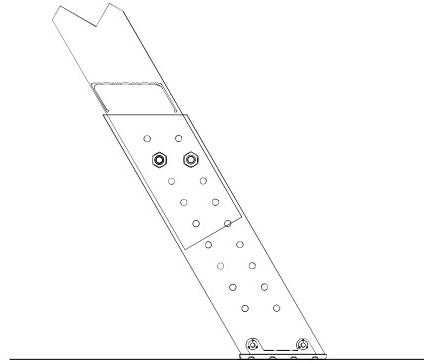

Figure 9
14. Slide the adjustable shoe onto the bottom rail. Align the holes in the adjustable shoe with the closest set of holes in the side rails so that the shoes are flat on the ground and there are no gaps between the sections. See Figure 9.
16. Attach the adjustable shoes using (2) $\frac{1}{4}$ " bolts, washers and locknuts per side.